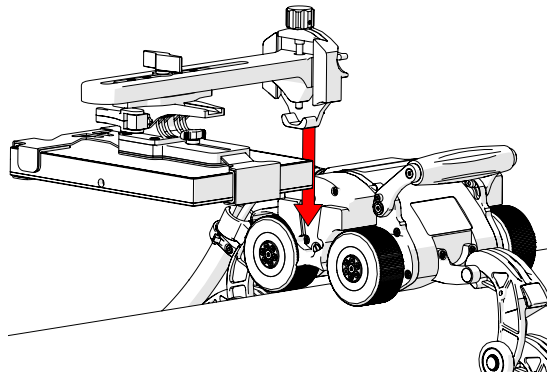

Fig. 96 - Mount detector bracket to the crawler
17. Mount the detector bracket (Fig. 96) to the crawler (see "Mounting Detector Bracket to Crawler" on page 30).